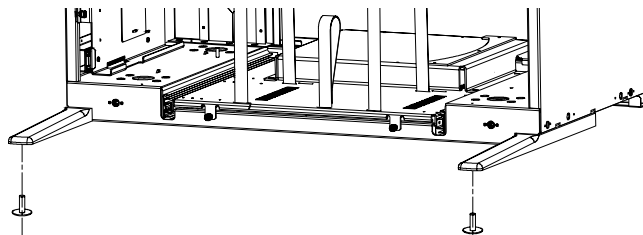

Figure 1-61 Console Stabilizer Pads
- 9.) Attach the two pads to the console stabilizers. Refer to Figure 1-61.